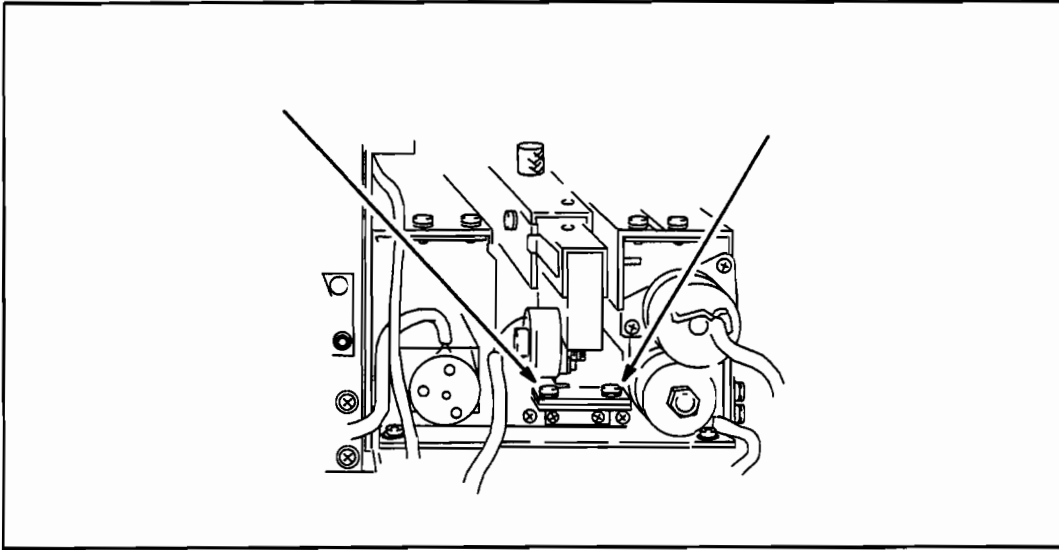
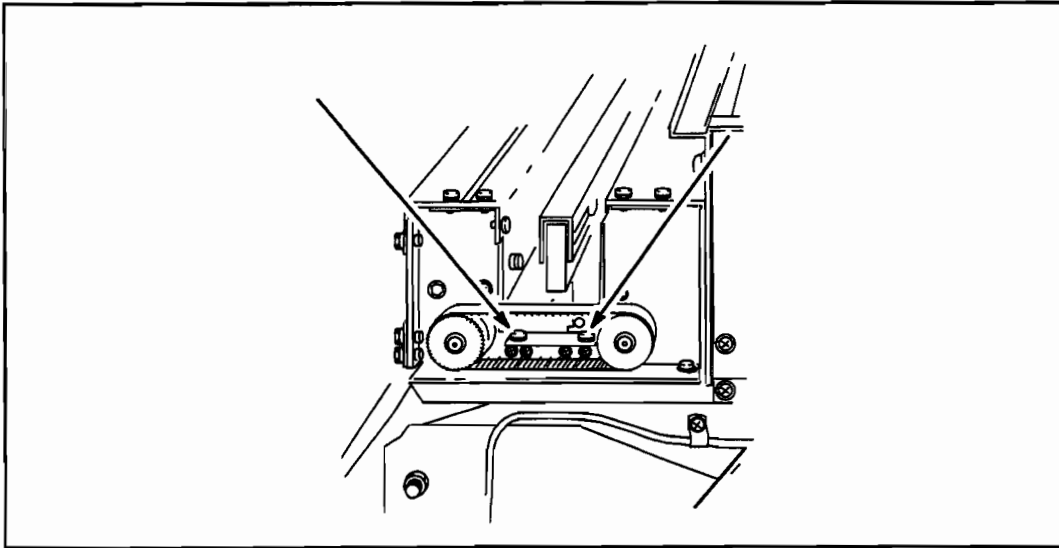

Figure 6-89. Y-axis Cutter Assembly (Right End)
Figure 6-90. Y-axis Cutter Assembly (Left End)
5. Remove the four screws holding the Y-axis cutter assembly to the rest of the media cutter system. See Figure 6-89 and Figure 6-90.